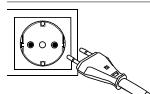

Fig.19: Connecting
4. Tilt the fan to the desired position from which the blower should come. See Figure 19.